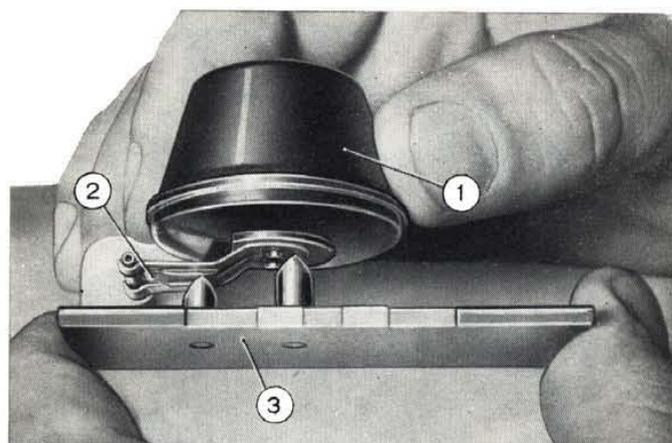

Fig. 150 - Solex carburetor: checking float arm.
- take down the float from carburetor and place it on gauge A. 95126, as shown in fig. 150;
- set the float arm (2, fig. 150) into touch with both gauge dowels; correct adjustment of float level is indicated by the absence of arm clearance at dowels.